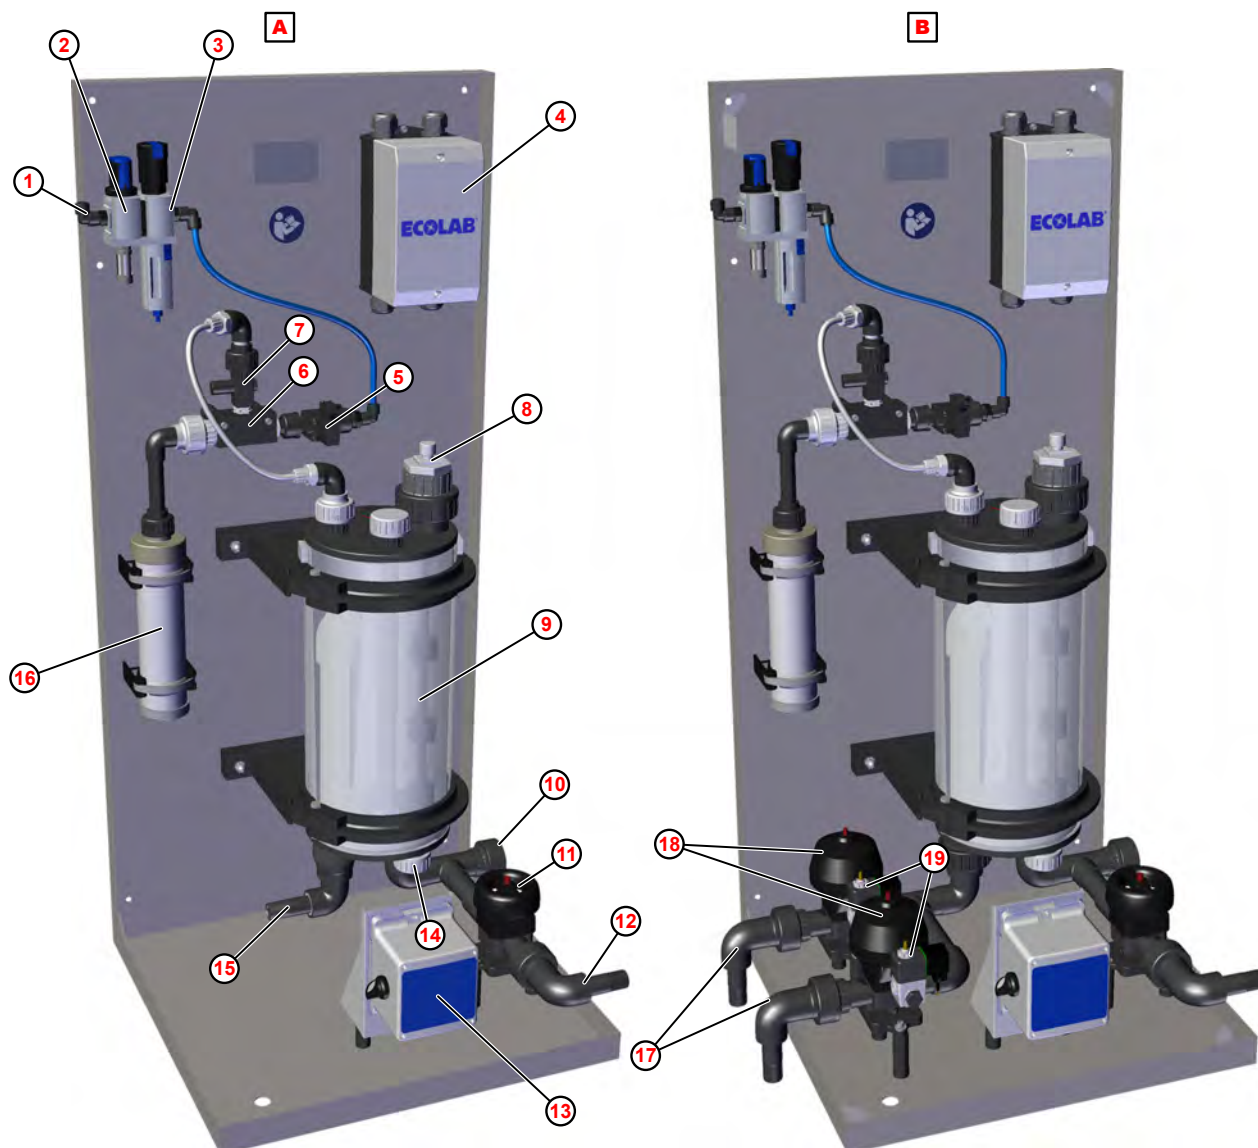

Fig. 1: Structure (A = Connex Basic, B = Connex Switch))
A compressed air supply is required for the injector Fig. 1, ⑥ and to control the changeover valves. ⑱
There are three connections at the bottom of the lifting vessel. In the Connexx Basic Fig. 1, ⑲ A the PVC fabric hose (19/27 mm) is connected directly to the left-hand connection and routed to the Click & Plug connection coupling.